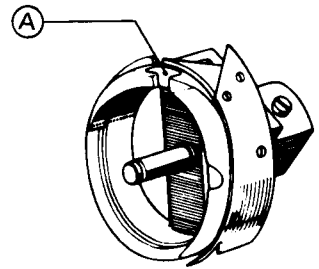

Fig. 30
- (1) Use the undertrimmer hook which has the bobbin thread guide slit (A) as shown in Fig. 30.